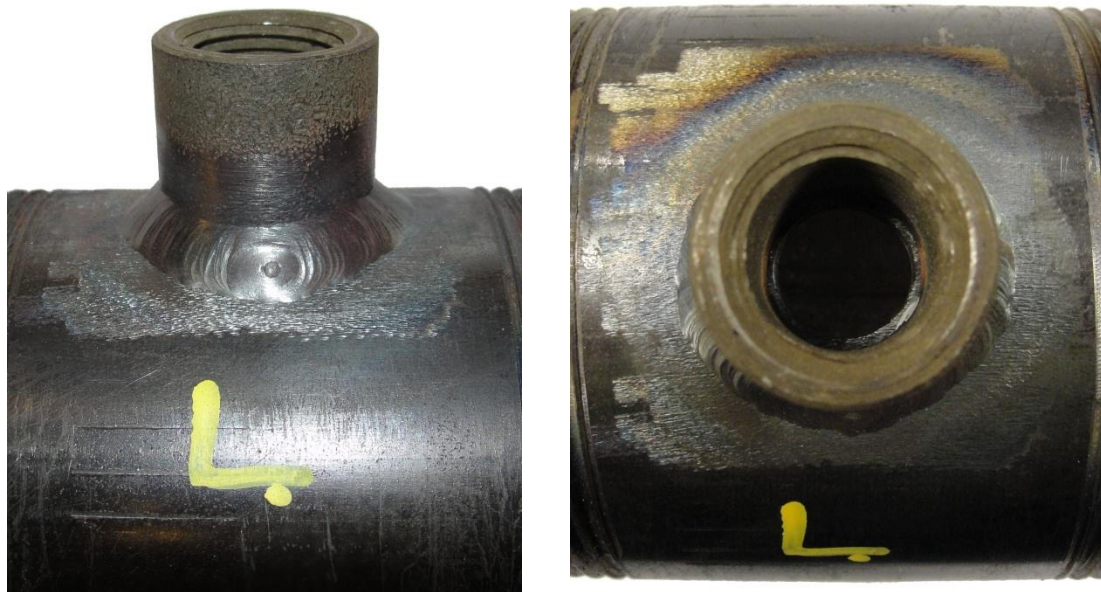

Figure 3: ½" NPT Half Coupling Welded to Pipe with ½" Hole Drilled Through Center
5. If a ½" NPT or larger half coupling is not available in a suitable location, one will need to be welded onto the pipe with a ½" or larger hole drilled through the center of the coupling. After this is completed, the assembly should look like Figure 3.